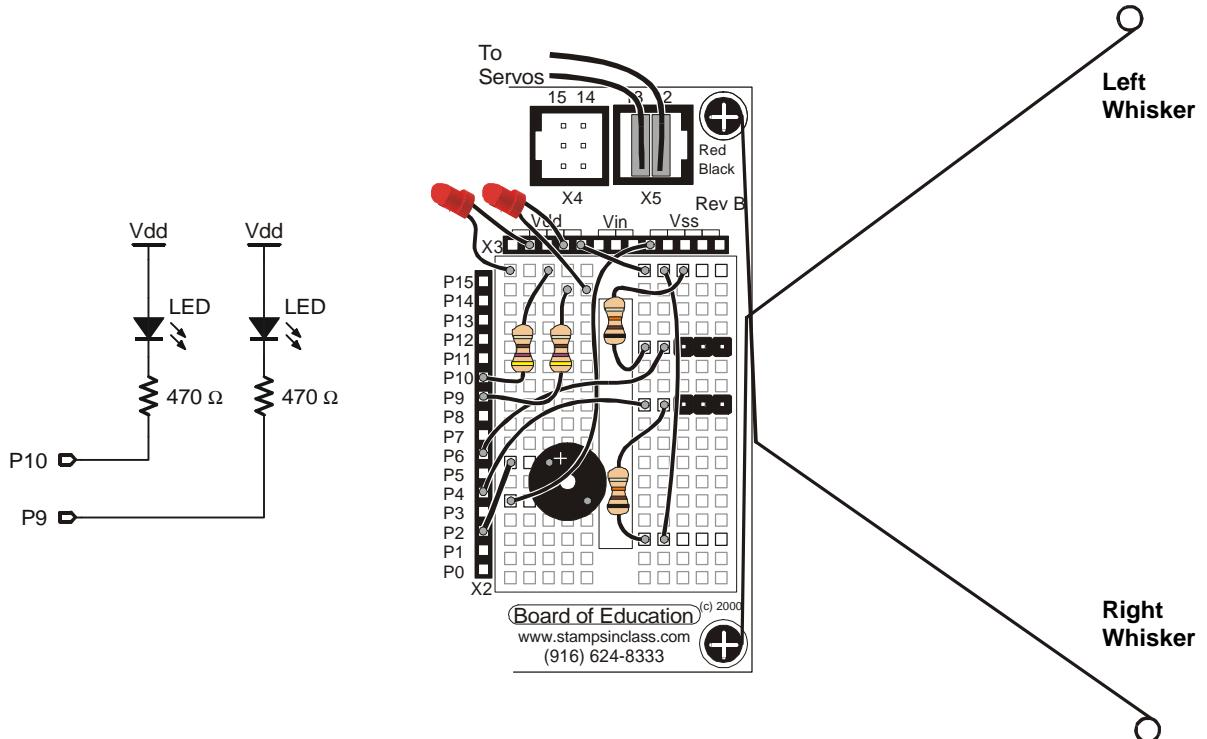

Figure 3.7 (a): add this LED circuit,
- ❑ Construct the circuit shown in Figure 3.7.